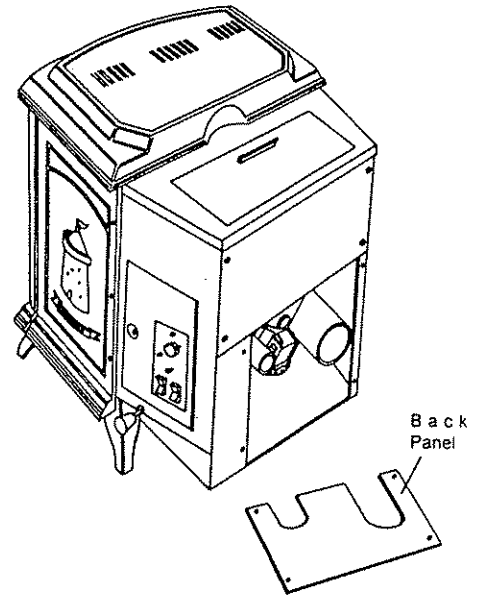

Fig. 45
- A. Remove the back panel (item no. 50) by undoing the fixing screws located on each side and front (see fig.45)